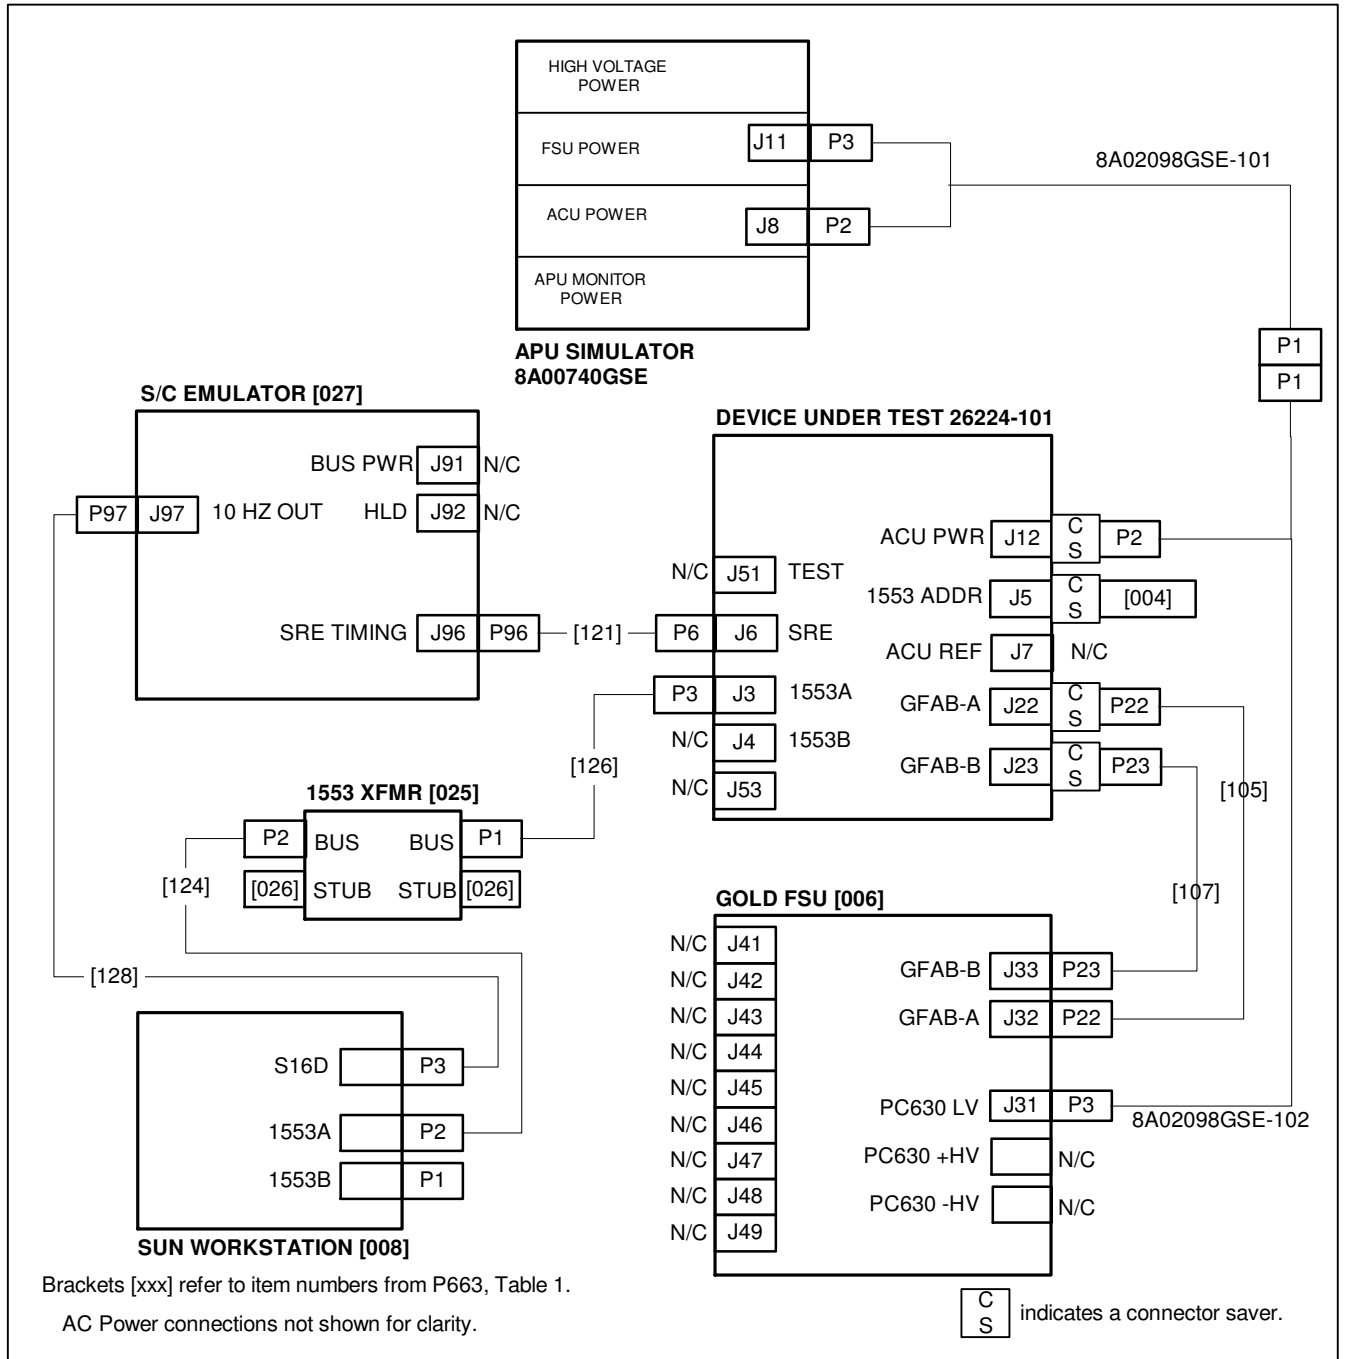

Figure 1: Connection Diagram for ACU Subsystem Test
13.1.2. Cable system for as shown in Figure 1. Numbers in square brackets refer to item numbers as listed in P0663 – Gold System certification procedure, Table 1.